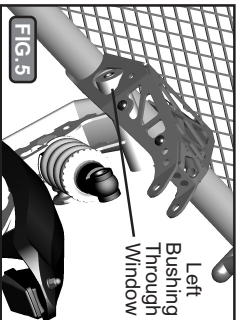

FIG. 5 Left Bushing through shock tower opening and left window.
- B)** Next install the swingarm pivot in the shock tower. The pivot is wider than the shock tower opening and will need to be twisted so the left bushing-side of the swingarm goes through the opening first and exits the left side window as shown in Fig. 5.